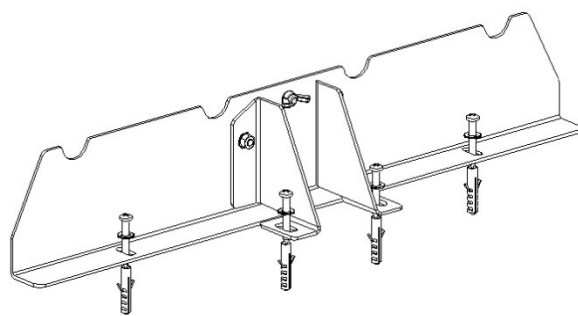

Figure 5
c) Mark the center of the Front Support and drill using a $\text{\O}6\text{mm}$ Wídea (Concrete) drill bit. Secure it with the plugs and screws (included) as shown in Figure 5.